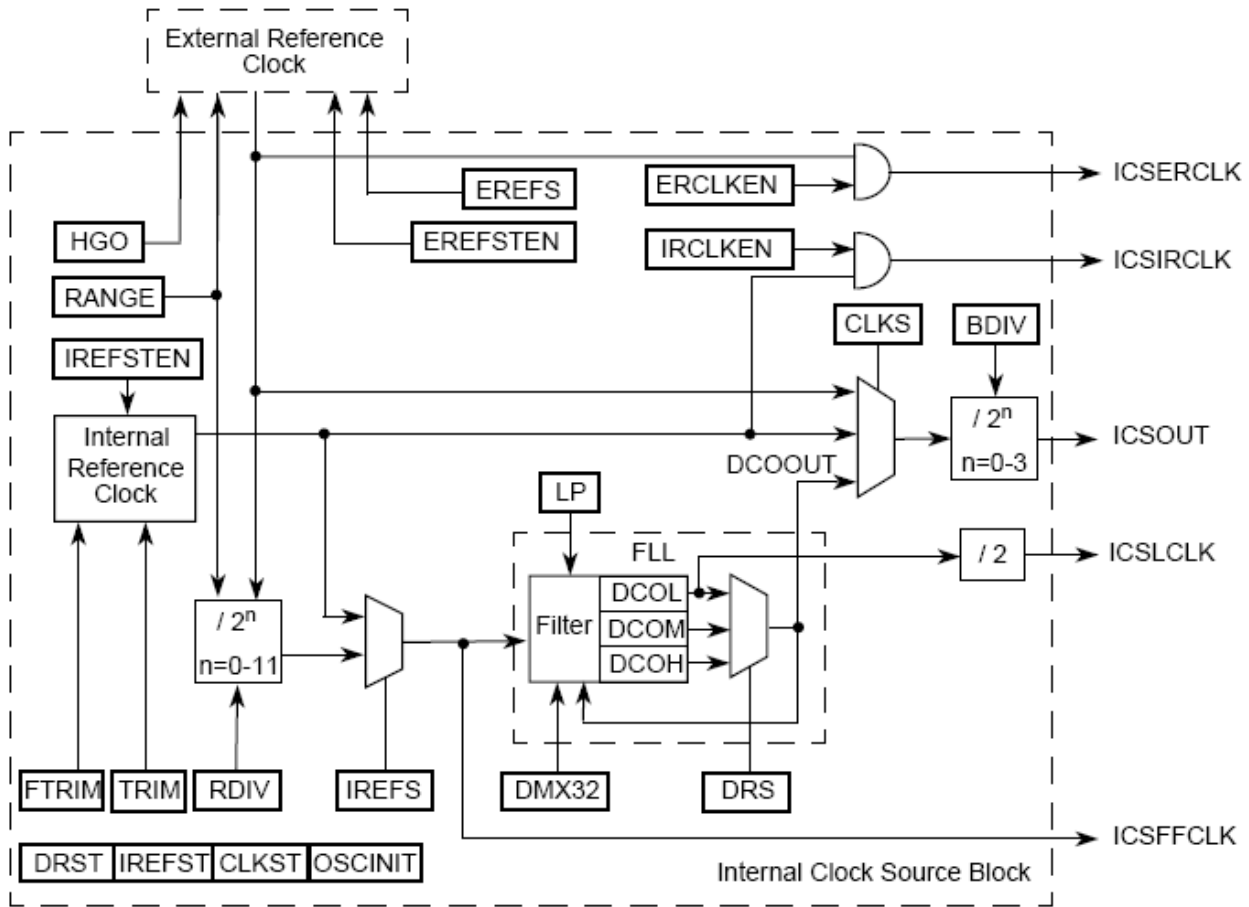

Figure 2. QE128 ICS Module Block Diagram
The QE128 ICS, see Figure 2, has two clock sources available at any time: the internal 32 kHz oscillator or an external reference clock that can be from 32 to 38.4 kHz (low range), or 1 to 16 MHz (high range). The internal oscillator can be in the range of 25 to 41.66 kHz if untrimmed and can be trimmed to 31.25 to 39.06 kHz. The FLL must be fed with a reference in the range of 31.25 to 39.06 kHz. The reference divider (RDIV) can be used to divide down the higher frequency external source to meet this requirement. The FLL has three digitally controlled oscillator (DCO) multipliers: low (512), medium (1024) and high (1536) and a fine tuning function to maximize the output frequency when 32.768 kHz is the reference. The ICS module can be in FLL enabled, FLL bypassed and FLL disabled modes with either the internal or external clocks as references. It can also output the internal or external clock sources directly in to the MCU for use as sources for other modules regardless of the FLL settings.